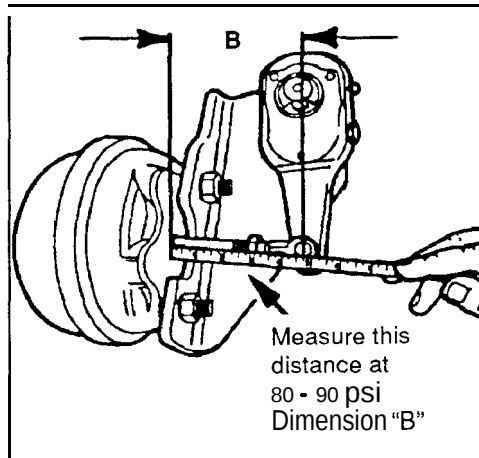

Figure 4
3. Measure from the brake chamber face to the center of the clevis pin (see Figure 4).